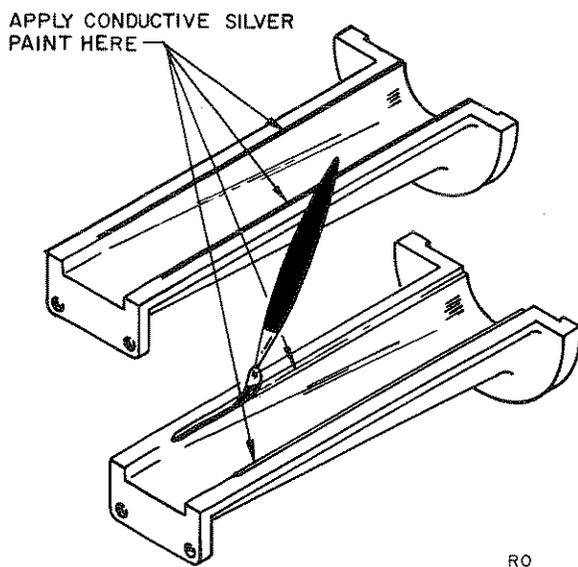

Figure 13. Application of Conductive Silver Paint to End Section
- (5) Apply conductive silver paint along the inner edges of the end section halves as shown in Figure 13.